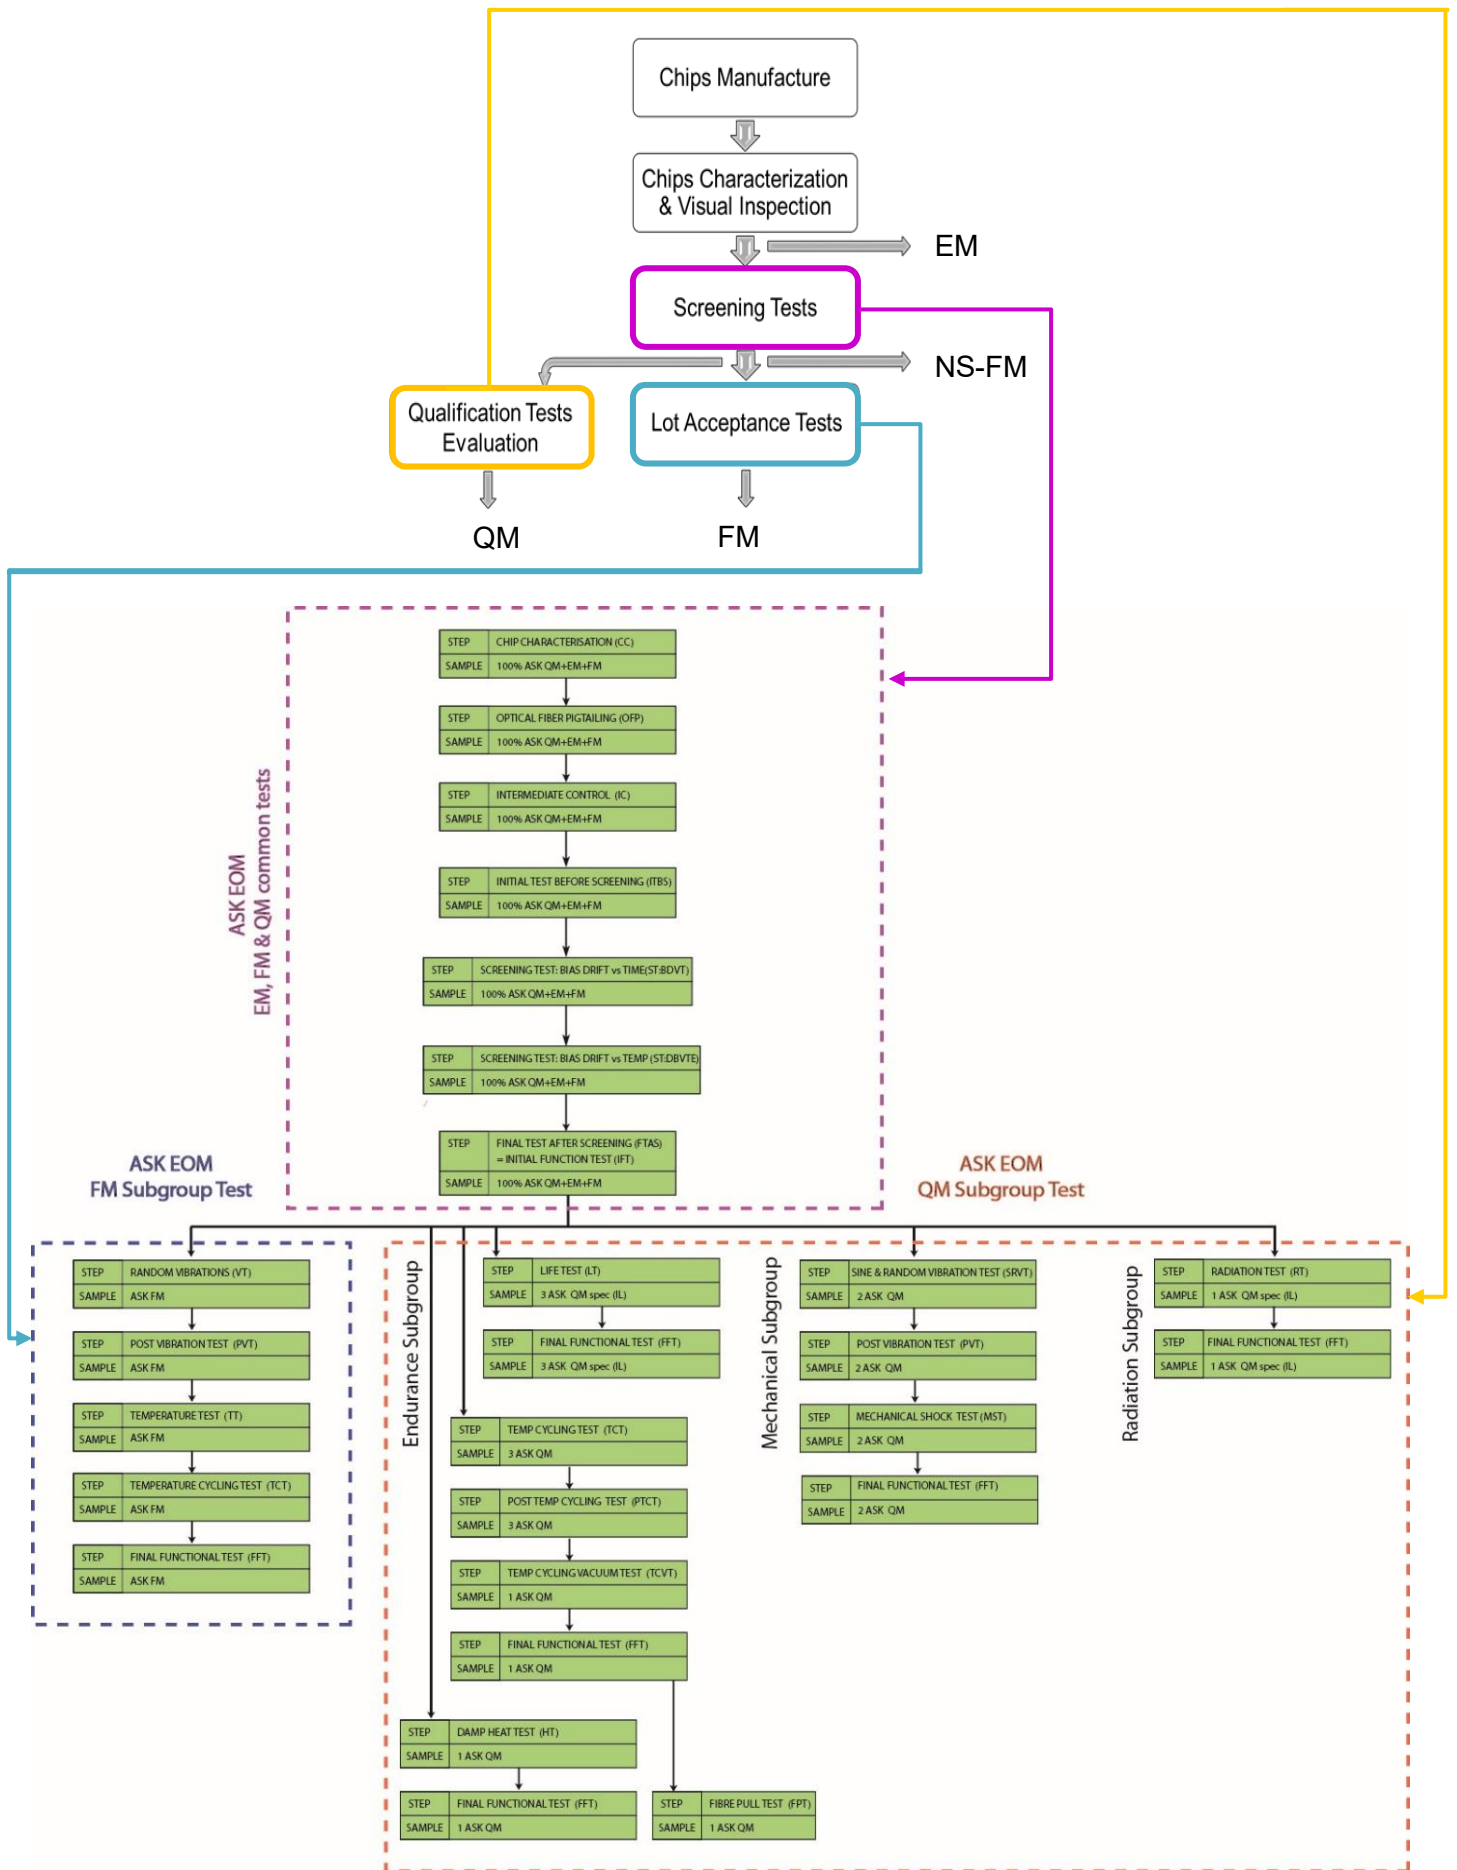

Figure 4: Example of QT and LAT
The modulators follow the Qualification Test (QT) and the LAT which correspond to different tests according to their category. The different steps they have to undergo for each category are listed in figure 4 - which shows the whole process.